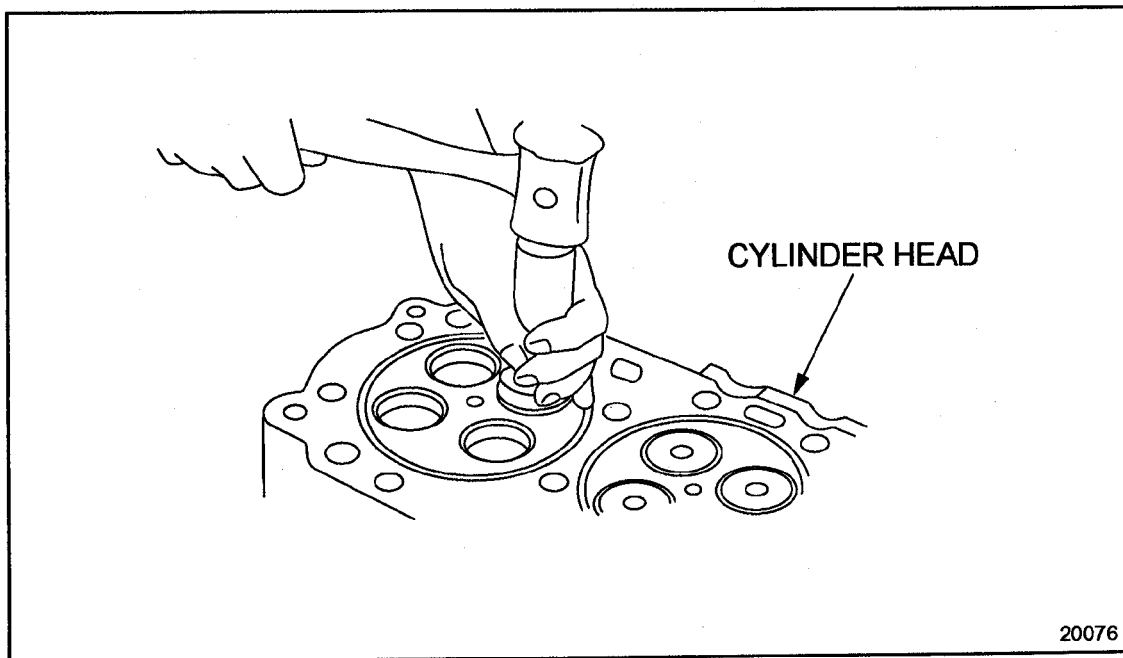

Figure 1-78 Seating Valve Seat Insert
5. Drive the insert solidly into its seat in the cylinder head. See Figure 1-78.